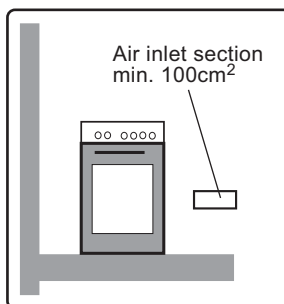

Figure 2
- Turn the hob upside down and fasten the brackets "A" which can be connected to the hob in two different positions depending on the worktop thickness as shown in figures 2 to 4 to the appropriate screw holes, without tightening the screws "B" for the moment.